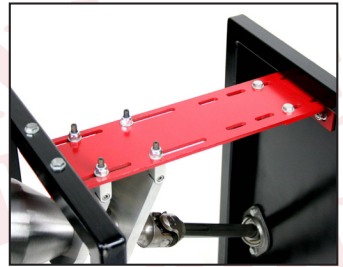

Figure 2
1. Affix your adjustable under dash mount to the firewall and the dash (**Part # 2301000010**). (Figure 2) A support may need to be built behind the dash.